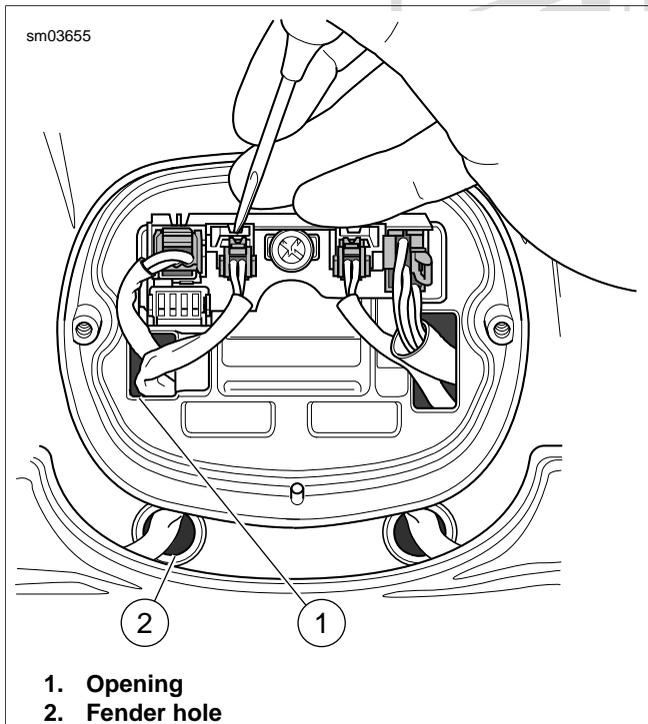

Figure 8-54. Use Pick Tool to Release Left Turn Signal Lamp Socket
- Disconnect turn signal lamp assembly, 2-place Multilock. For best results, use a pick or small screwdriver to depress release button as shown in Figure 8-54.
- Draw conduit and socket housing out through fender hole just below chrome base. See Figure 8-54.
- Route socket housing through channel in bracket, and then feed through fender hole just below chrome base. See Figure 8-54.